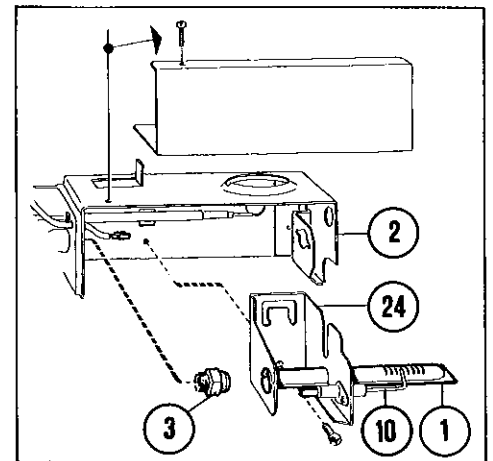

Figure 2
#### Burner (Figure 2)
**Thermocouple (Figure 2, 3)**